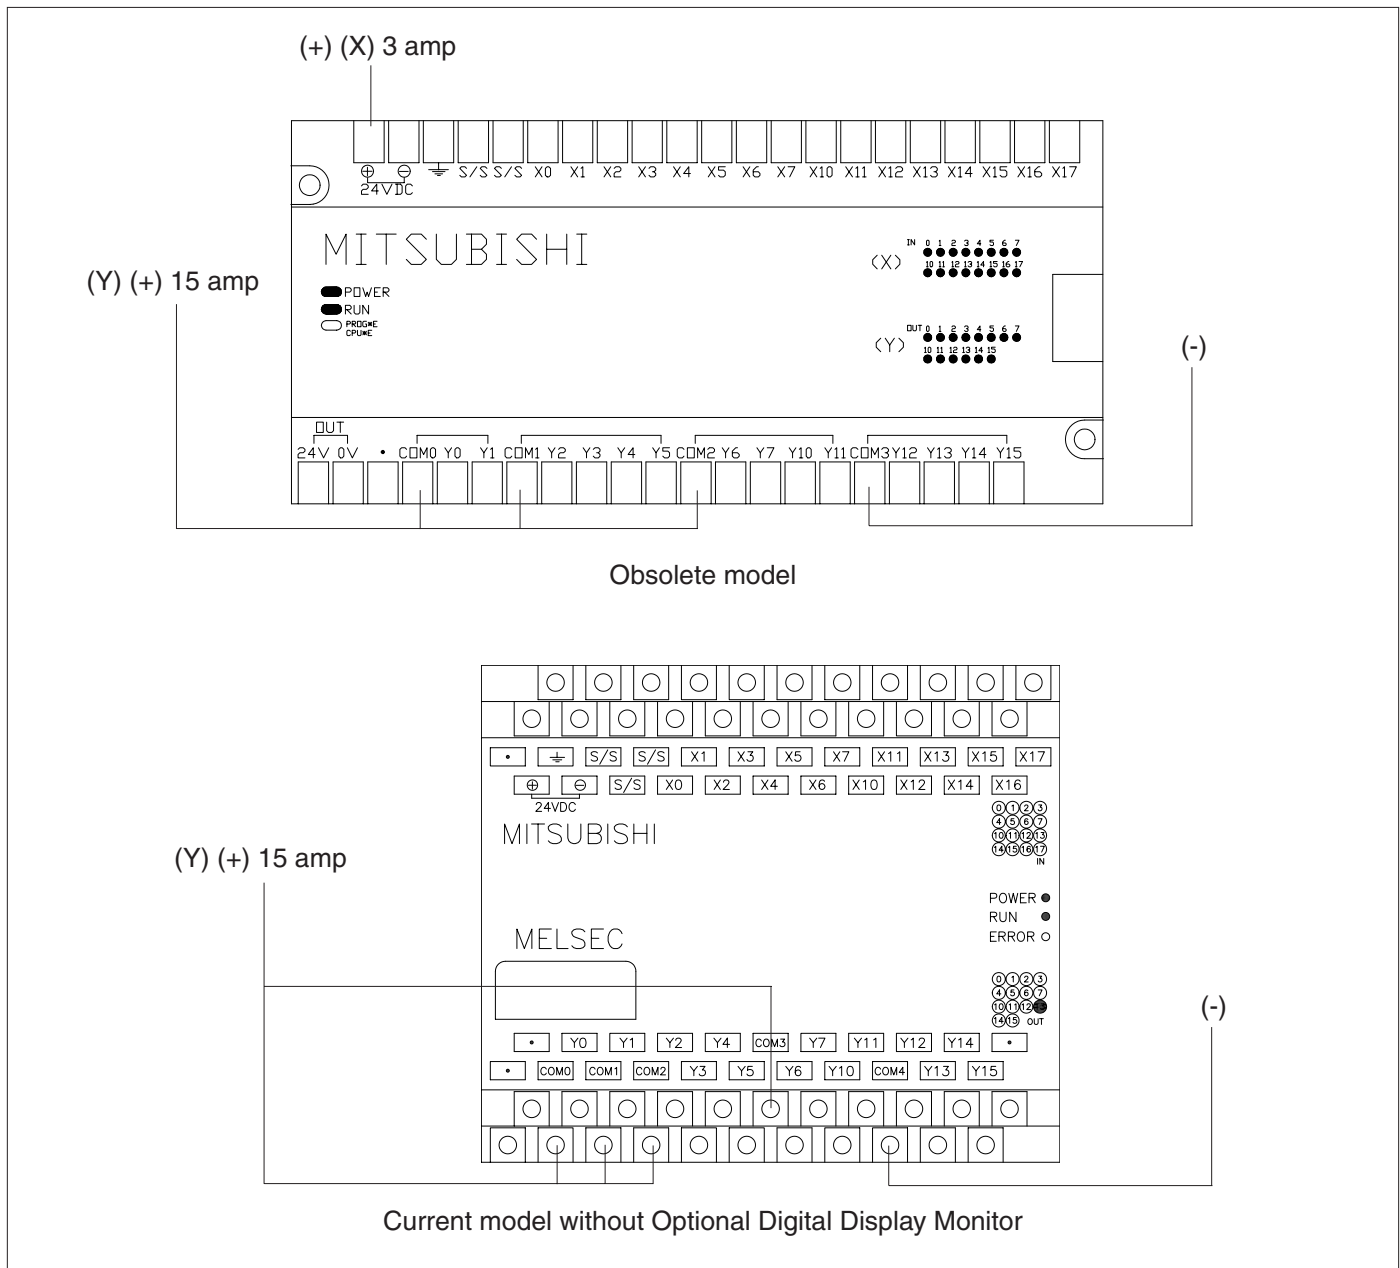

Figure 14 - Troubleshooting Outputs
1. Check for the power to the PLC. The **POWER** indicator light on the cover of the PLC should be on. The PLC is powered by the accessory relay and protected by a 3 amp circuit breaker on the input (X) side and a 15 amp circuit breaker on the output side (Y). See Figure 14.